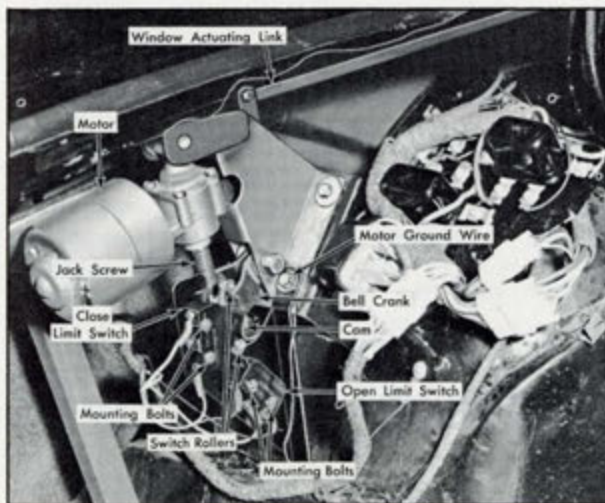

Fig. 6 Rear Quarter Window Operating Mechanism
The mechanism for operating the rear quarter windows is located in the upper left and right front corners of the luggage compartment, Fig. 6.
6. Remove trim cover from quarter window operating mechanism in luggage compartment, and disconnect rear quarter window actuating link at bell crank, Fig. 6.
The open and close limit switches are mounted on a plate just below and inboard of the rear quarter window operating motors, Fig. 6. The upper switch is the Close Limit Switch that limits forward travel of the window. The lower switch is the Open Limit Switch that limits rearward travel of the window. The switches are operated by the action of switch rollers riding on a cam welded to the jackscrew bell crank.
2. Loosen switch mounting bolts on side of switch, Fig. 6.